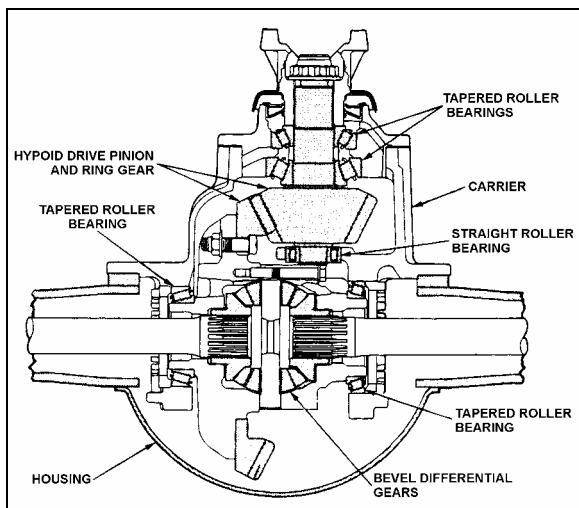

FIGURE 2: DIFFERENTIAL ASSEMBLY
- FIGURE 2: DIFFERENTIAL ASSEMBLY 2